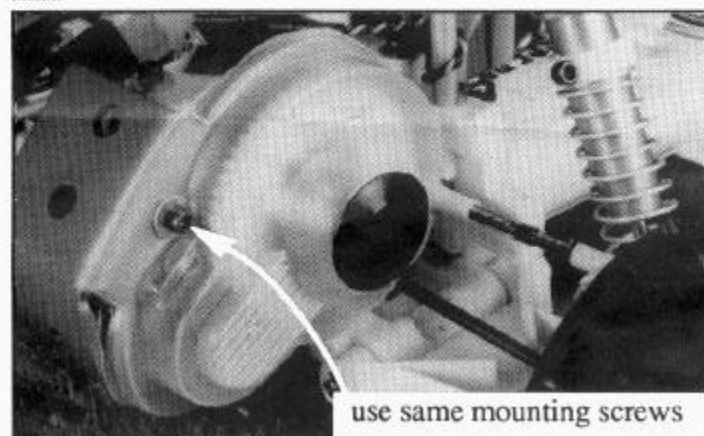

fig. 2
**STEP 4** Mount your new dust cover using the same mounting screws and washers already on your car (figure 2).
**STEP 5** Firmly push the black cap in until it pops into place, as shown in figure 2. Make adjustments to your dif after popping off the cap with your fingernails or screwdriver.